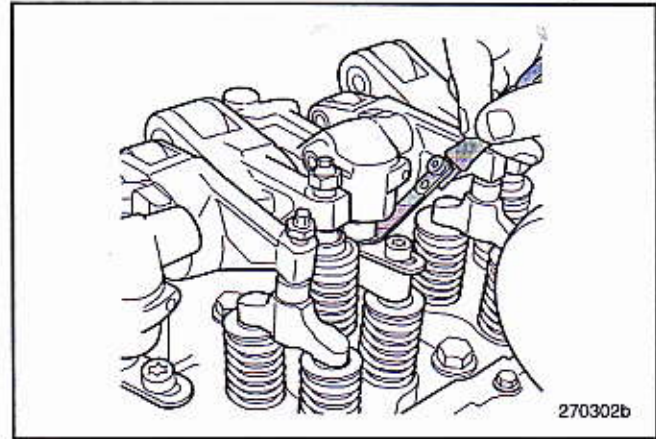

Figure 440 — Measuring Exhaust Valve Clearance
3. Measure the clearance between the rocker arm piston and the shim on top of the yoke (bridge) as shown in Figure 440.